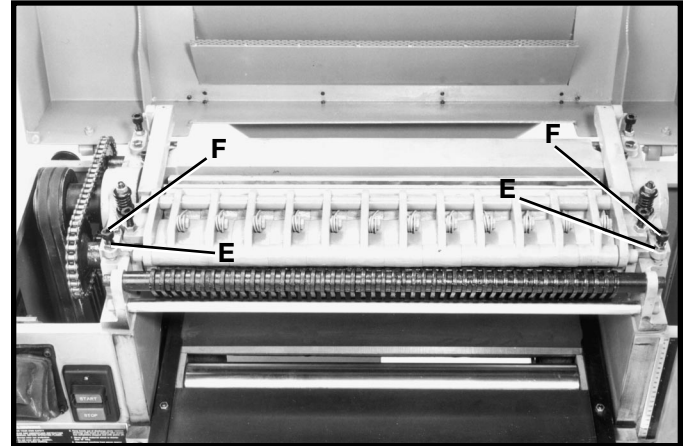

Fig. 48
5. If an adjustment is necessary, loosen locknut (E) Fig. 48, and turn adjustment screw (F) until the infeed roll just touches the top of gage block (A).
7. Tighten locknuts (E) Fig. 48, after adjustments are completed.